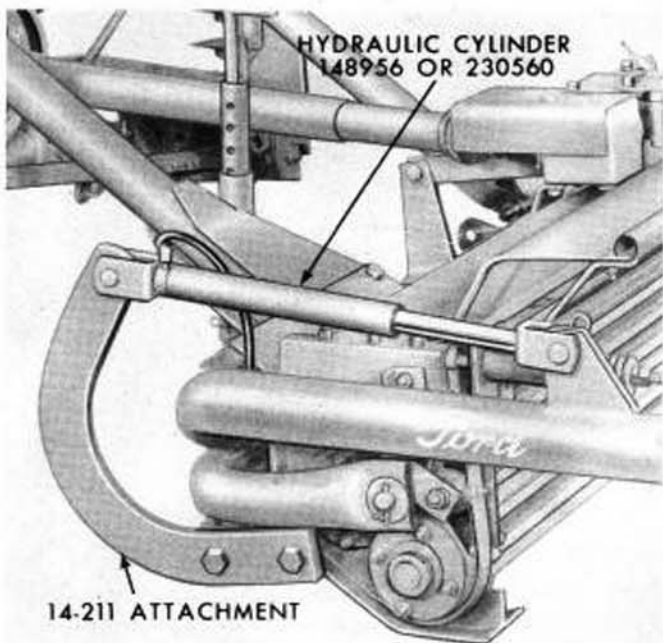

Figure 15 - 14-211 Hydraulic Lift Assembly
This kit makes possible the use of a hydraulic ram cylinder (148956 or 230560), to enable lifting and lowering the crushing rolls from the tractor seat. Figure 15 shows this attachment as it is installed on the conditioner unit.
**Attaching:** The 14-211 lift arm is fastened to the conditioner arm bracket using the two 7/8" x 2 1/4" bolts supplied with the lift arm. When this attachment is used on a semi-mounted conditioner the hydraulic line can be routed through the left hand pull arm as shown in Figure 15. When used with a pull type conditioner the hydraulic line can be routed through the tongue. The hydraulic line can be attached directly into the tractor hydraulic manifold, however, best results are obtained through the use of a remote control valve attachment.